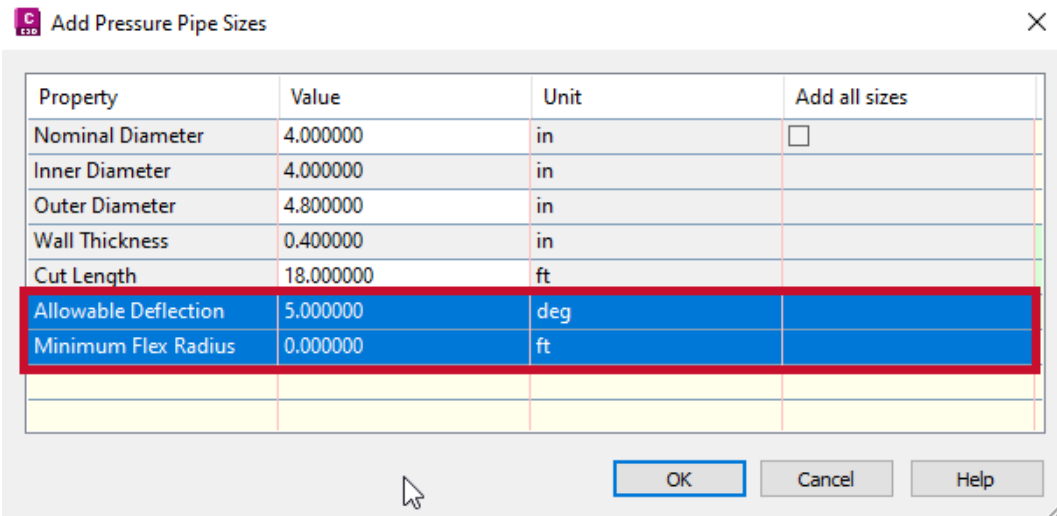

Figure 3.33 – Defining design check criteria when building Pressure Parts Lists
- **Deflection:** Checking this parameter will check the deflection angle at all connection points between pipes and pipes, pipes and fittings, along with fittings and fittings. The **Allowable Deflection** angle value that this parameter is checking against is defined in the Pressure Network Parts List as Pipes and Fittings are added to the corresponding list (refer to *Figure 3.33*).
- **Radius of Curvature:** Checking this parameter will check that all pipes meet the allowable **Minimum Flex Radius** as defined for each of the parts as they're added to the Pressure Network Parts List being used (refer to *Figure 3.33*).